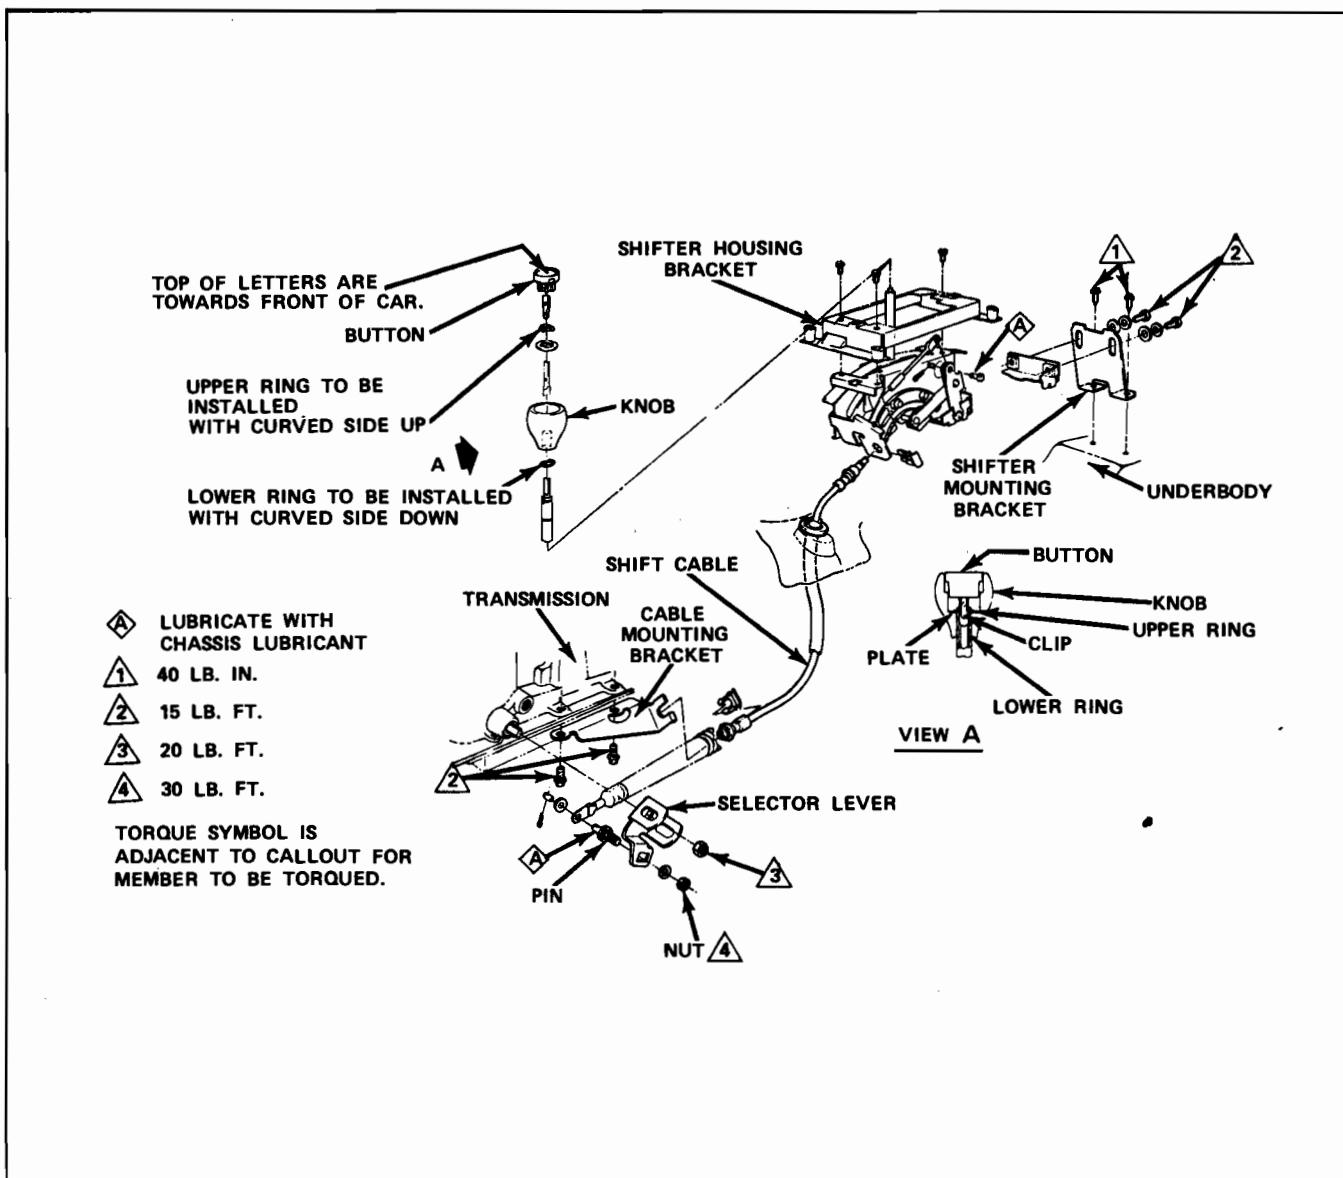

Fig. 7F-5 Tempest Console Shift Linkage
a. Use Press Plate J 8904, with adapters J 6407-1 and J 6407-2, and place two 3/16" shims between second and third lands of government sleeve (Fig. 7F-13).